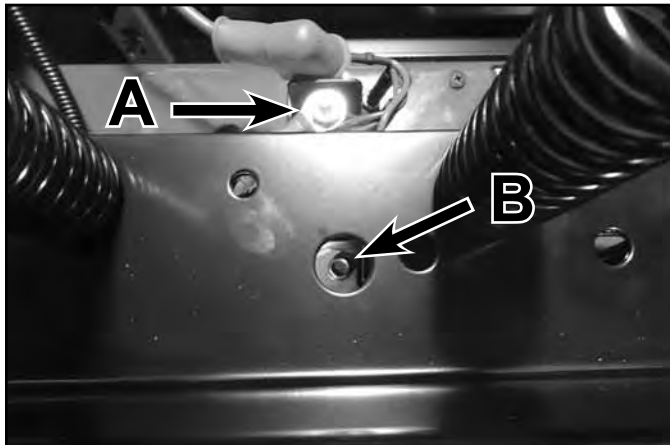

Fig. 158
2. Remove the fastener (B) that secures the connector cover (Fig. 158).